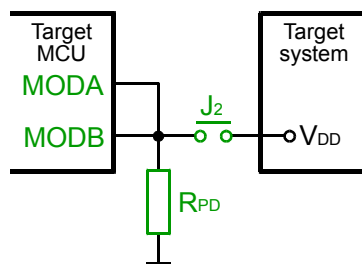
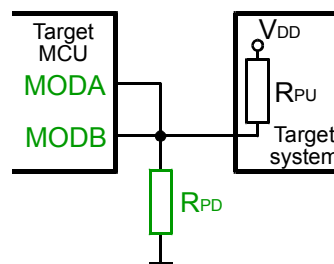

Figure 13. Mode selection, case 1
Figure 14. Mode selection, case 2
**MODA/LIR $\setminus$** , **MODB/VSTBY** – Mode selection pins. They have to be in stable "L" level, during reset of MCU. It means, that voltage value mustn't exceed range  $\langle V_{SS}-0.3V; 0.2 \times V_{DD} \rangle$ . Mode select circuit should be adjusted accordingly to this condition. If the target system has even one of these pins directly connected to VDD, it's needed to disconnect it, and use weak Pull-Down resistor (*case 1*, see *Figure 13*). Other case, if these pins have a Pull-Up, your Pull-Down during ISP operation must be stronger, to meet previous declared condition, without disconnecting Pull-Up (*case 2*, see *Figure 14*, *Formula 1*).